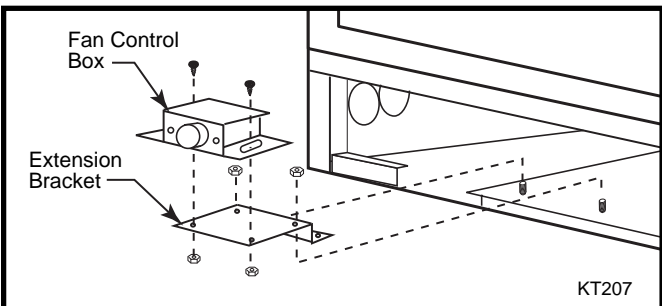

Fig. 48 Attach the control box to the bracket and install bracket into the cabinet.
- b. Attach the Fan Speed Control Box to the Bracket (Fig. 48) and install the Bracket into the Cabinet.